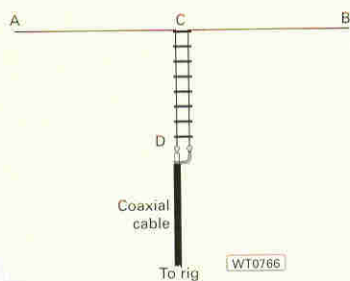

Fig. 2: Using a tuning stub (C-D) makes the dipole look like a G5RV antenna, but is still nonetheless a dipole.
Physically shortening a dipole is shown in Fig. 2. It shows how a short dipole can be brought to resonance by means of a loading stub. **And although this antenna may look like a G5RV but beware, it isn't.** The top (AB) should be made as long as possible and the length of the stub (CD) should be adjusted for minimum s.w.r. A good starting point is to make the total length of the wire in the antenna somewhat more than half a wavelength.